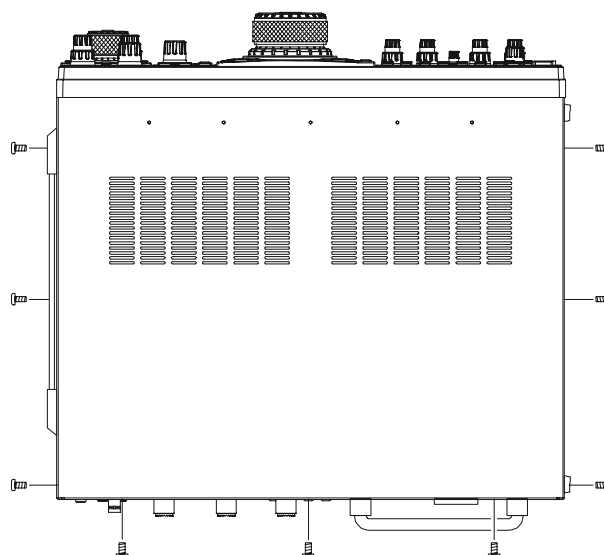

FIGURE 1
3. Referring to Figure 1, remove the three screws from each side of the transceiver, and three screws from the top edge of the rear panel. Slide the top cover toward the rear about 1/2 inch (1 cm), then remove the top cover.